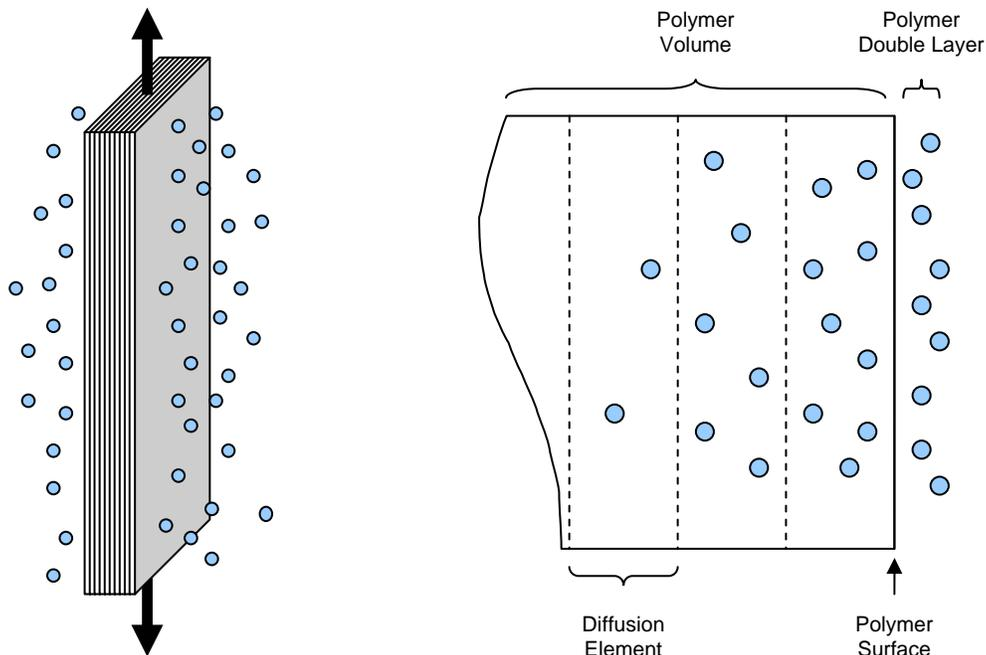

Figure 3: Reticulation of Thin-Film Polymer into Diffusion Elements
2. Develop a two-port transmission matrix representation for the floating roller and the idler (figure 3). For simplicity, *neglect all frictional losses*. You should find it easiest to begin with the idler. Remember that (a) the transmission matrix representation is a-causal and (b) may be facilitated a revision of the sign convention.
Your task is to develop a reticulated network model of the diffusion process as depicted in figure 3 and compare it with the continuum model.